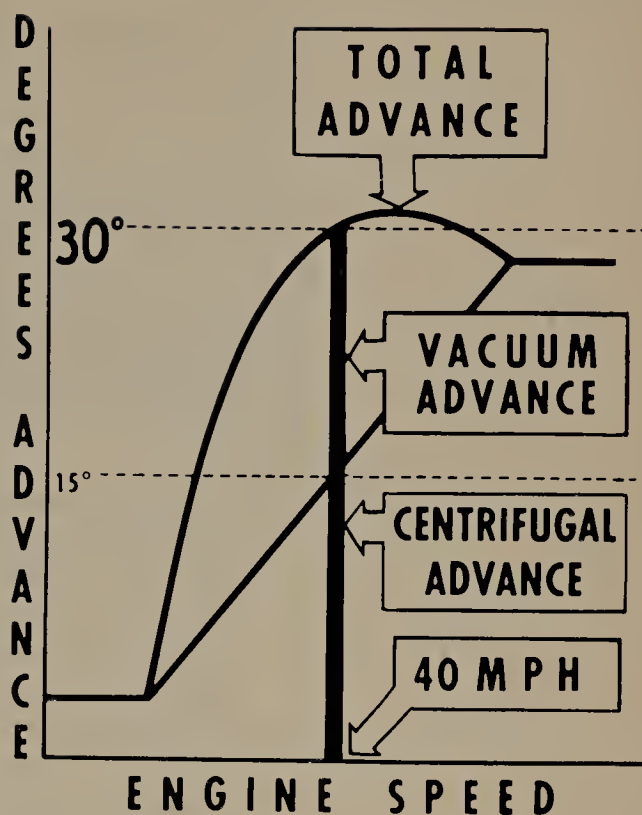

FIGURE 7.30 Centrifugal and vacuum advance curves for one application.
7.19 Combination Advance. At any particular speed there will be a certain advance due to the centrifugal mechanism plus possibly some additional advance due to the vacuum advance mechanism. Figure 7.30 illustrates this. At 40 mph (miles per hour), for example, the centrifugal advance mechanism provides 15° spark advance on this particular application. The vacuum advance mechanism can supply up to 15° additional advance under part-throttle operation. However, if the engine is operated at wide-open throttle, this added vacuum advance will not be obtained. The advance will thus vary between the straight line (centrifugal) and the curved line (centrifugal plus possible vacuum advance) as the throttle position is changed.